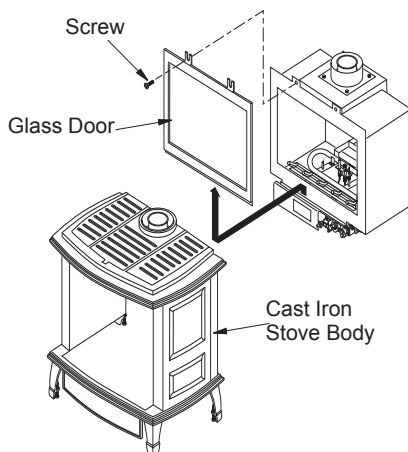

Figure 25 - Removing Glass Door from Burner System
2. Remove screws from 2 tabs at top of glass door while holding door securely keeping it from falling forward (see Figure 25).
3. Grasp door by both sides and ease it upward off of lower bracket (see Figure 25).